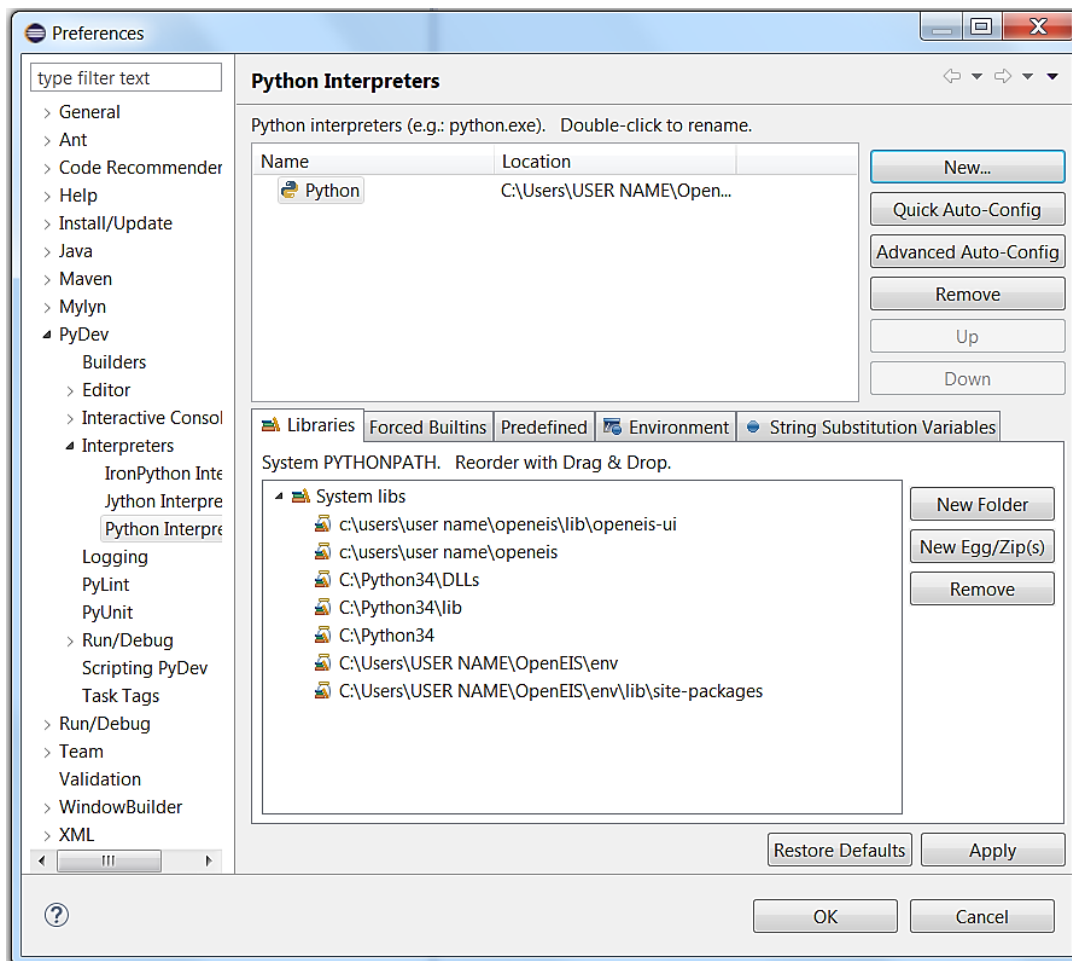

Figure 29: Configuring PyDev (continued)
- Choose Apply -> OK (Figure 29)